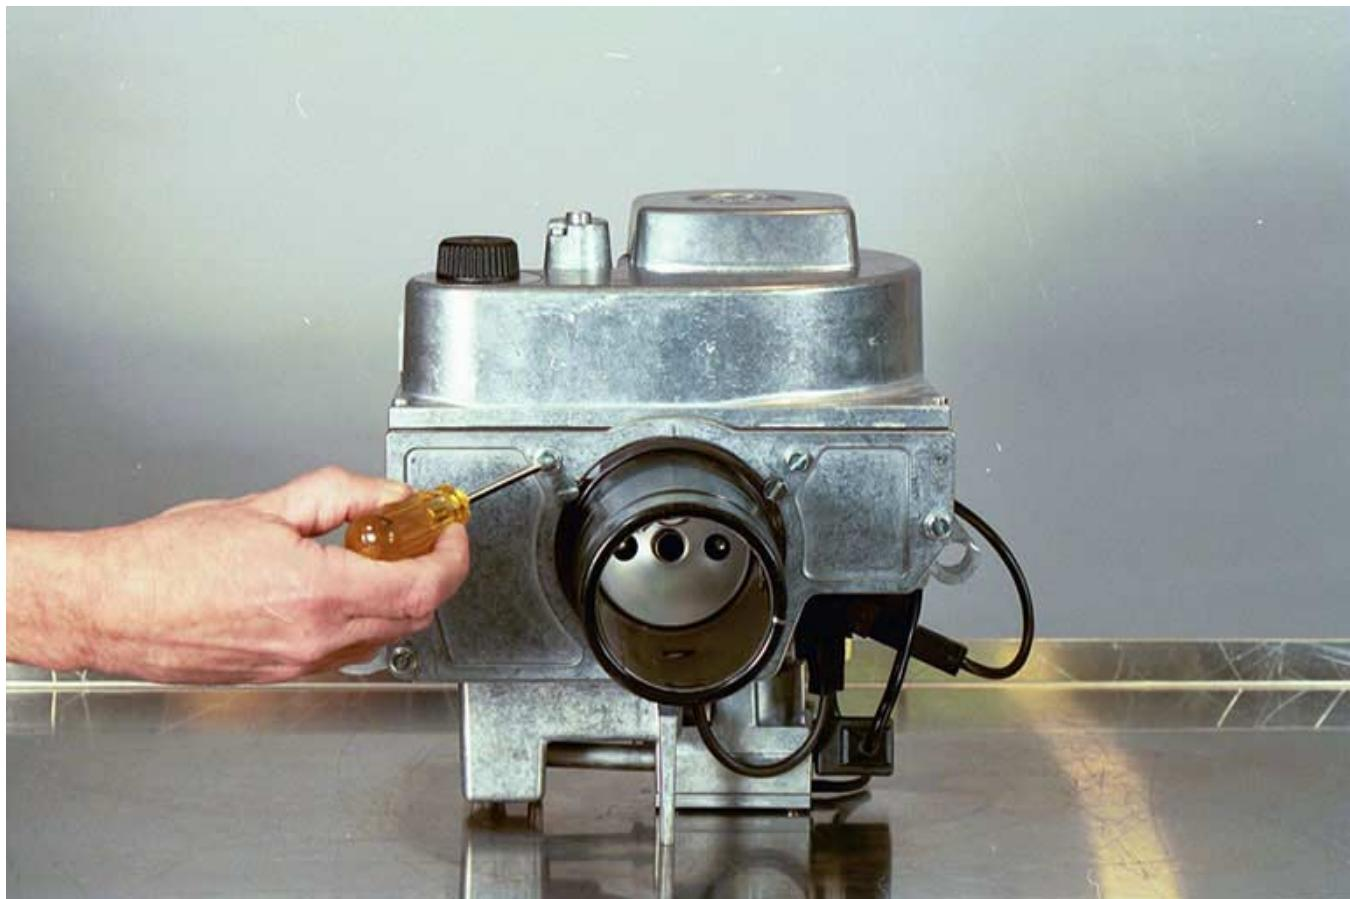

Figure 5-10. Front Flange Removal
To best determine which of these problems exist, remove the front flange assembly with air tube and flame tube to fully expose the atomizing chamber with its dual atomizers. This can easily be done by removing the three screws that hold the front flange assembly to the lower fan housing (figure 5-10). Now, turn on the "blower" switch while observing the surface of the atomizers. If a thin film of fuel can be seen passing over the atomizers, the problem is not with the fuel supply system. This observation should be made in a well lighted area and can best be seen immediately after the "blower" switch is energized. It may be difficult to detect the thin film of fuel passing over the atomizers, so it may be necessary to exercise the switch several times while observing the surface of the atomizers.
a. Step 1. First remove the front flange of the lower fan housing by removing the three screws (figure 5-10) with a flat tip screwdriver to expose the atomizing chamber. It is not necessary to remove the air tube/flame tube assembly.